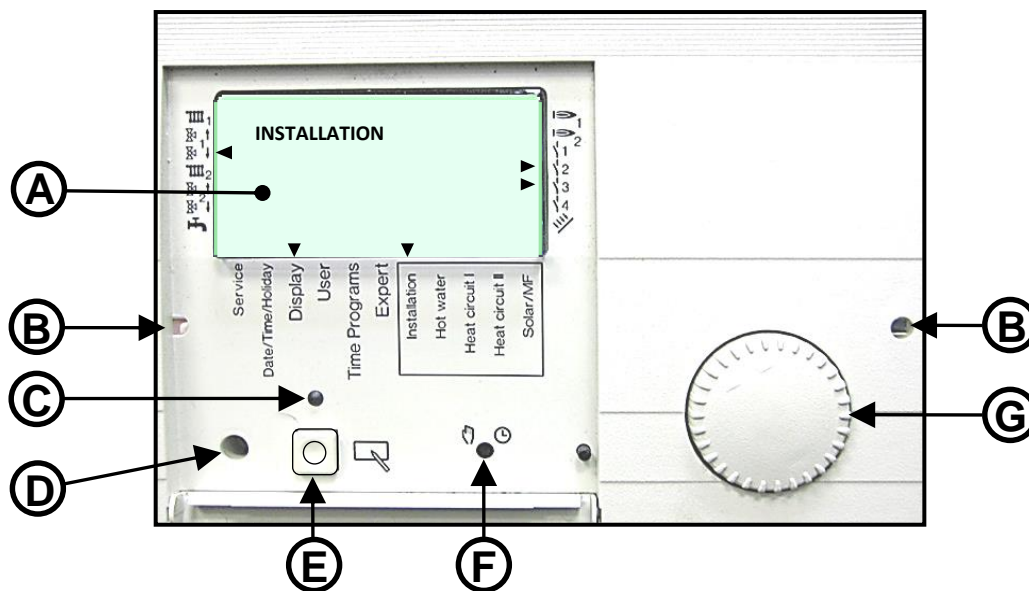

Figure 5-4: E8 MENU Mode Display Features
Opening the E8 controller hinged door reveals the E8 controls (Figure 5-4) and initiates the MENU Mode, which enables access to an extensive set of software menus.
3. To view functions included in the INSTALLATION sub-menu, press the Program Key (Item E, Figure 5-4). If desired, turn the Rotary Knob to scroll through the functions in the INSTALLATION sub-menu. As previously mentioned, these display functions are read-only and cannot be changed. Once you reach the end of the sub-menu, RETURN will appear in the display.